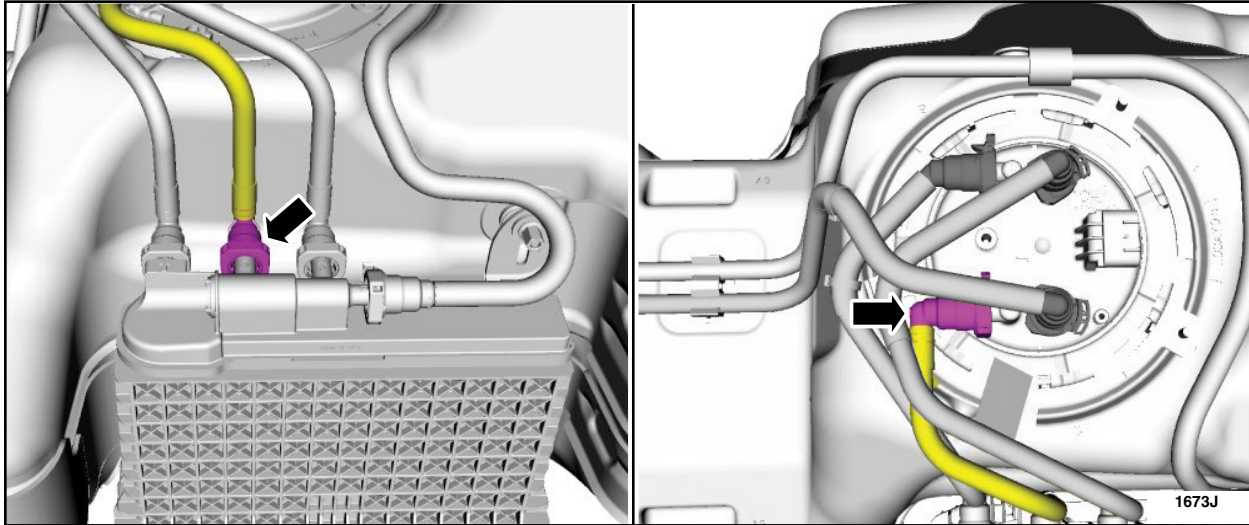

FIGURE 2
5. Disconnect the return fuel line quick connect coupling from the fuel conditioning module or from the fuel pump and sender unit. See Figure 2. Please follow the WSM procedures in Section 310-00 for quick release coupling (Type 3) information.